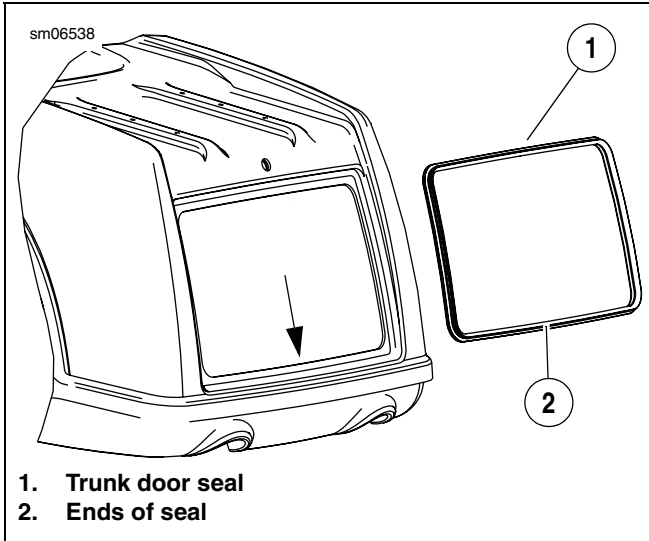
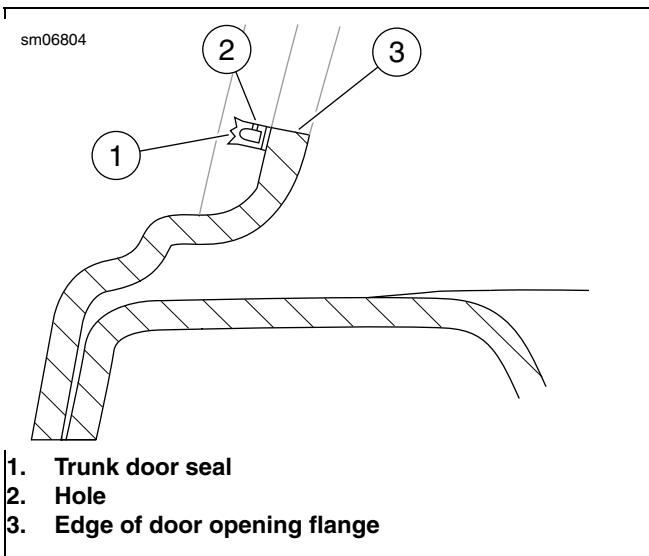

Figure 1. Trunk Door Seal
Figure 2. Cross Section of Gasket Placement
See Figure 2. Install the **new** seal (1) with the holes (2) toward the inside of the opening (3).
6. See Figure 1. Beginning at the bottom-center of the opening, adhere the seal even with the edge of the opening as shown in Figure 2. Work only 3-4 in. (76-102 mm) at a time.